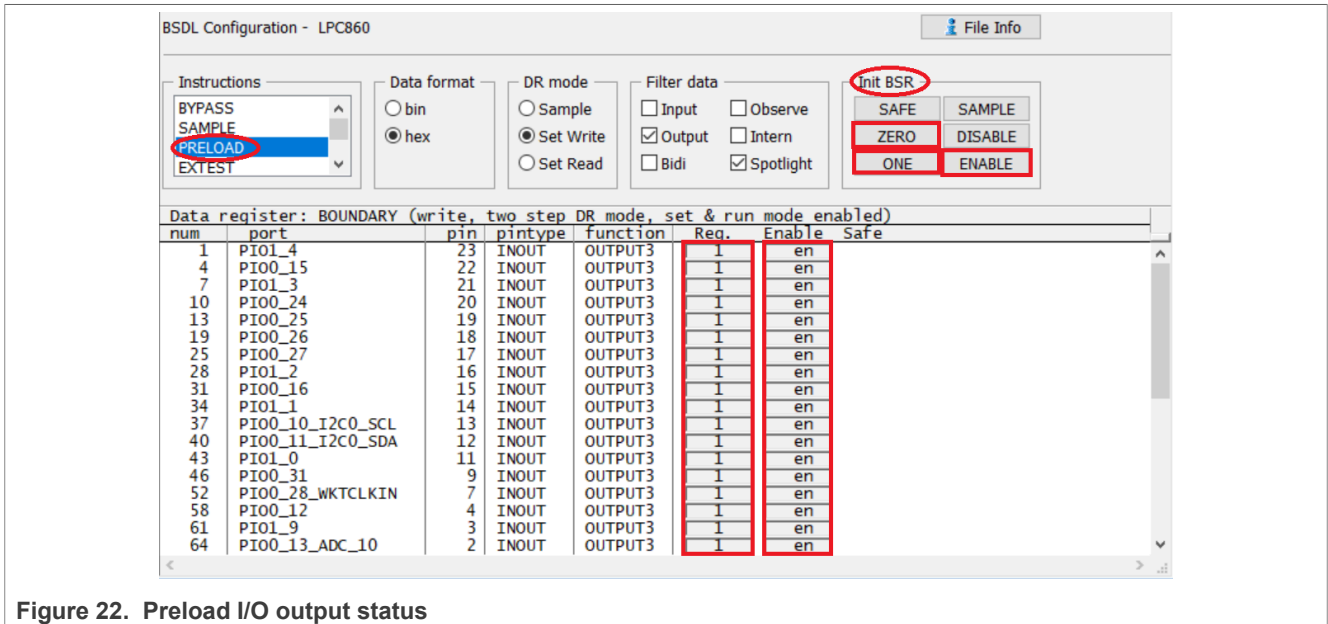

Figure 22. Preload I/O output status
- Use **PRELOAD** test with **EXTTEST**. To enable and preset driving buffers to 1 or 0 of all I/O pins, click **ONE** or **ZERO** and then **ENABLE** in the **Init BSR** field, as shown in Figure 22.